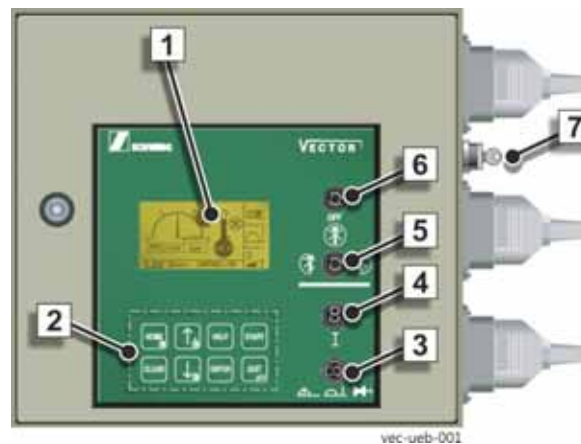

Fig. 93
- To do this, insert the key into the key-operated switch (7) (**Fig. 93**) and switch on the EMERGENCY STOP bypass function. The key cannot be removed in this position.
- Return the key-operated switch (7) (**Fig. 93**) to the neutral position and remove the key before leaving the jobsite.